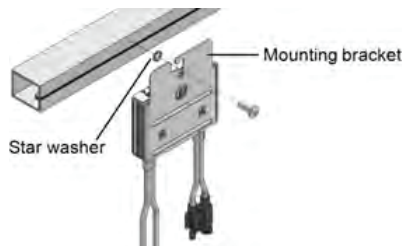

Figure 3: Power optimizer installation and grounding using a star washer
1. Determine the power optimizer mounting location and use the power optimizer mounting brackets to attach the power optimizer to the support structure (See *Figure 3*). It is recommended to mount the power optimizer in a location protected from direct sunlight. For frame-mounted power optimizers follow the instructions supplied with the optimizers, or refer to https://www.solaredge.com/sites/default/files/installing_frame_mounted_power_optimizers.pdf.